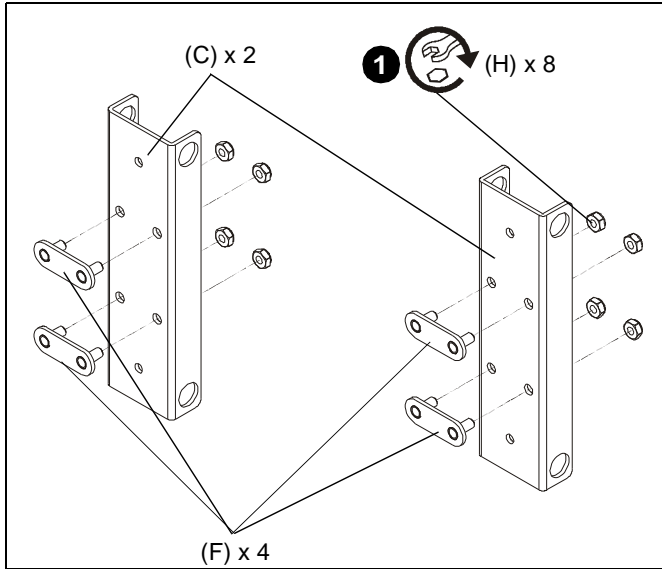

Figure 7
1. Use eight 1/4-20 hex nuts (H) to loosely secure four t-slot studs (F) to two clamp brackets (C). (See Figure 7)